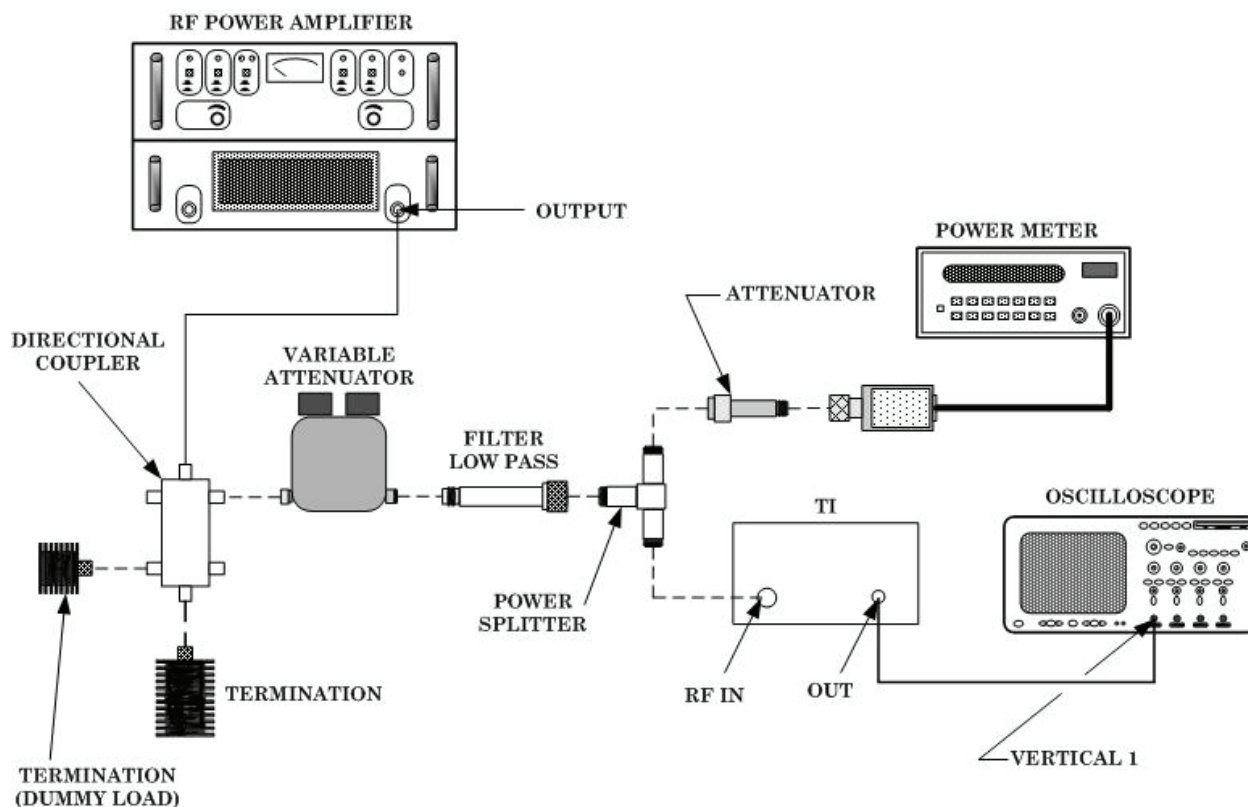

Figure 1. Meter calibration equipment setup.
- (1) Connect equipment as shown in figure 1.